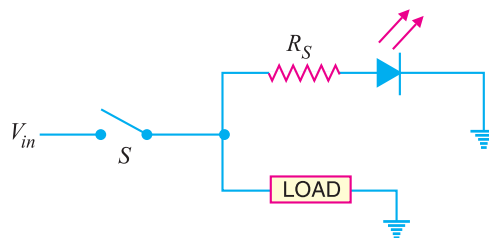

Fig. 7.8
**(i) As a power indicator.** A LED can be used to indicate whether the power is on or not. Fig. 7.8 shows the simple use of the LED as a power indicator. When the switch *S* is closed, power is applied to the load. At the same time current also flows through the LED which lights, indicating power is on. The resistor  $R_S$  in series with the LED ensures that current rating of the LED is not exceeded.